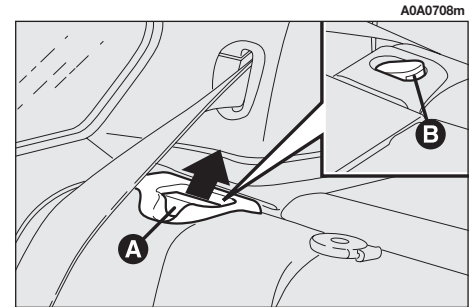

fig. 36a
**When the seat back is coupled properly, the “red band” (B) next to the seat back levers (A) disappears. The “red band” actually indicates improper seat back coupling (fig. 36a). When resetting it in proper position, make sure to hear the locking click.**